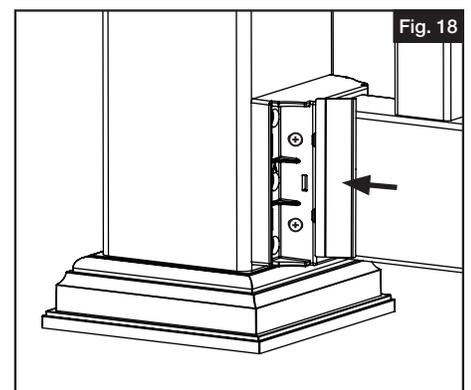

Fig. 18
- c. Match letter on inside of bracket cover to the letter on bracket, and snap cover in place. Repeat for all brackets (Fig. 18).